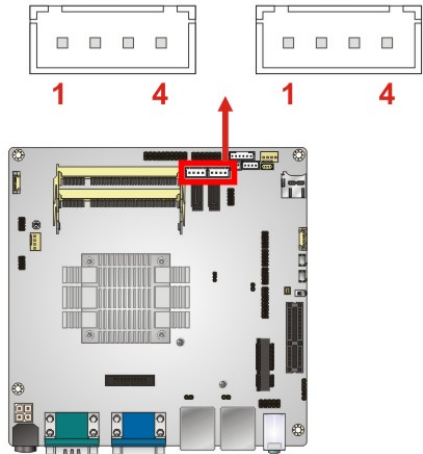

Figure 3-20: SATA Power Connector Locations
**CN Location:** See Figure 3-20